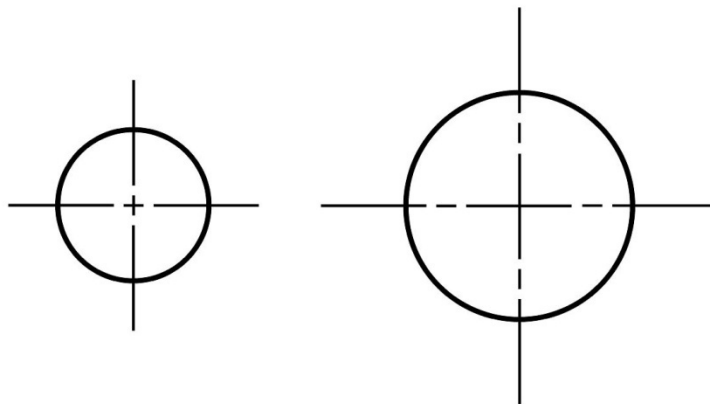

Figure 2-9: Crossing center lines.
- Rule 2. Center lines should intersect by crossing either the long dashes or the short dashes (see Figure 2-9).